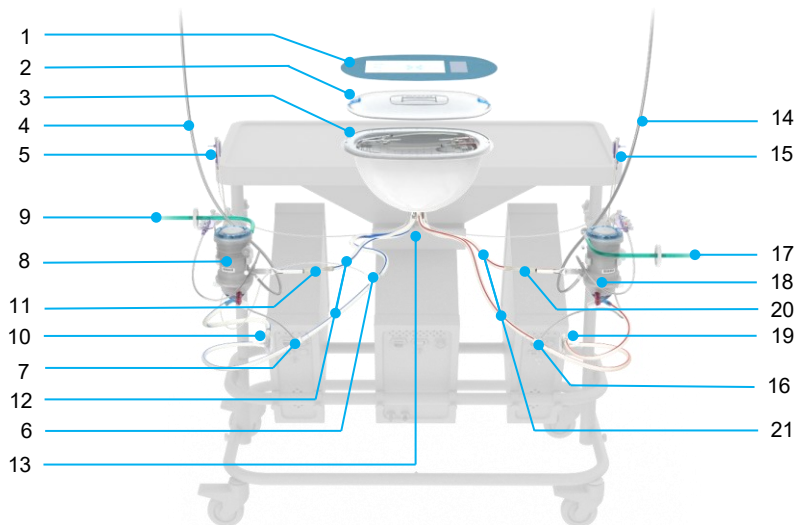

Figure 9 Liver Assist Perfusion Set
At the top of the trolley a tabletop is mounted to create a work surface. On the tabletop, the liver reservoir holder is located; a cavity wherein the liver reservoir of the disposable perfusion set Figure 9; item 3) is placed. The thermal insulating properties of the tabletop maintain the perfusion temperature in the liver reservoir. The thermal cover located below the tabletop protects the tubing from the warm air that is exhausted by the Thermo Unit. On both sides of the table, a pressure sensor holder is mounted wherein the disposable pressure sensors are placed at the same height as the liver, these pressure sensor holders are fitted with a bracket to avoid unintentionally repositioning of the pressure sensor valve. At each side of the trolley, an oxygenator holder is located for placement of the two oxygenators of the perfusion set. Additionally, the holders are equipped with a clamp to accommodate the sample manifold.
The Liver Assist Perfusion Sets are for single use only and are intended to accommodate both the liver and the perfusion solution during perfusion (Figure 9). The sets are sterile and packaged in a polyethylene tray sealed by a Tyvek sheet.
- Connect the flow sensors to the silicone tubing (Figure 9, item 11 and 20), located near the arterial side of the oxygenators of both the PV and HA circuit.